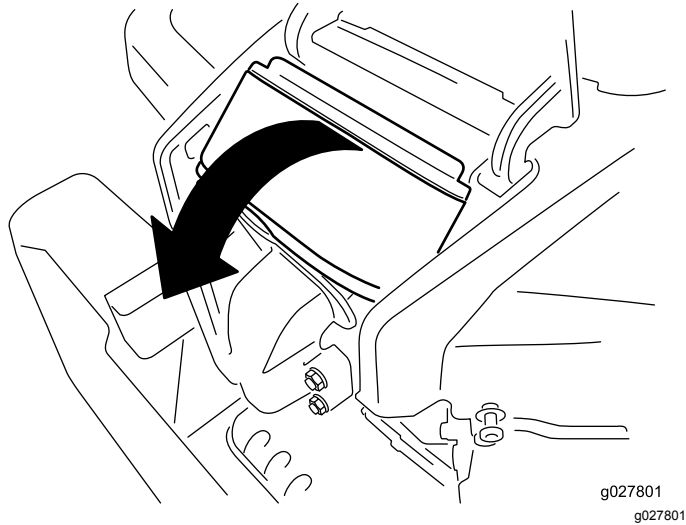

Figure 42
4. Lift the cover and rotate the air-cleaner assembly out of the engine (Figure 42).